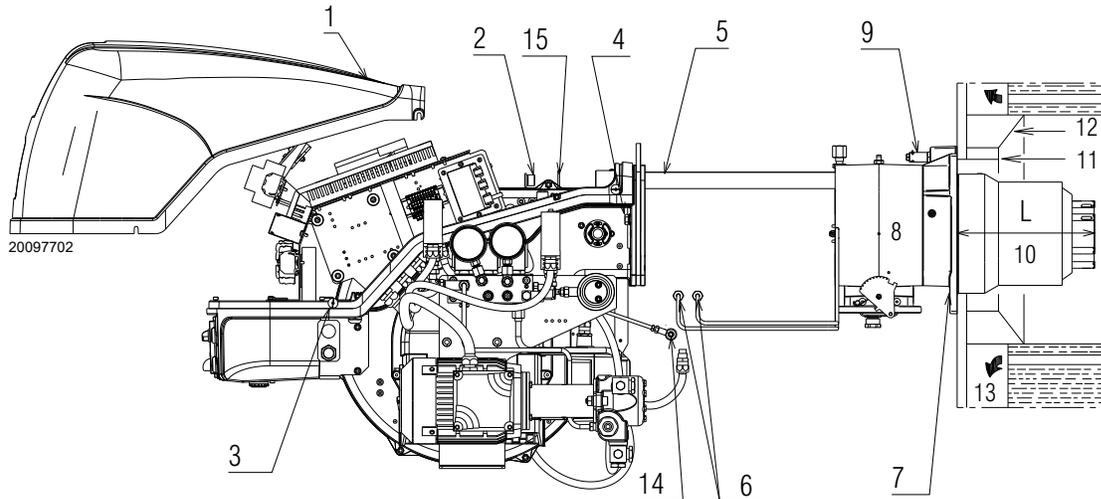
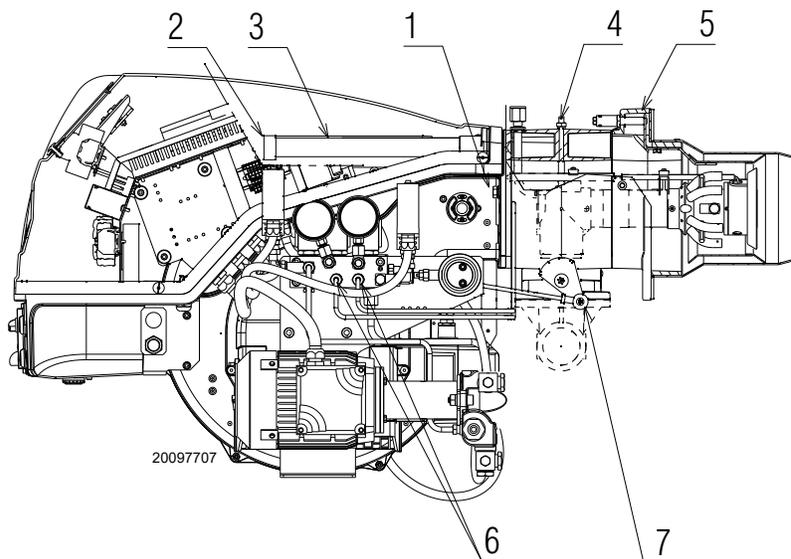

Fig. 11
Fig. 21
This protective insulation must not compromise the extraction of the blast tube. For boilers having a water-cooled front, the insulation (11)-(12)(Fig. 11) is not required unless it is required by the boiler manufacturer.
Detach the combustion head from the burner, (Fig. 11):
- Refit the burner to the slide bars 3)(Fig. 21) at approximately 4" from the sleeve 4) - burner positioned as shown in Fig. 11, page 18 - insert the ignition electrode cables.
- Slide the burner up to the sleeve so that it is positioned as shown in Fig. 21;
- refit screws 2)(Fig. 21) on slide bars 3) including the safety plate 15)(Fig. 11, page 18);
- connect the oil pipes again by screwing on the two connectors 6)(Fig. 11, page 18).